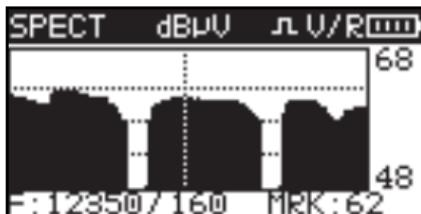

Figure 4
3. Press to figure 4 and align the dish and maximize the signal value and quality.